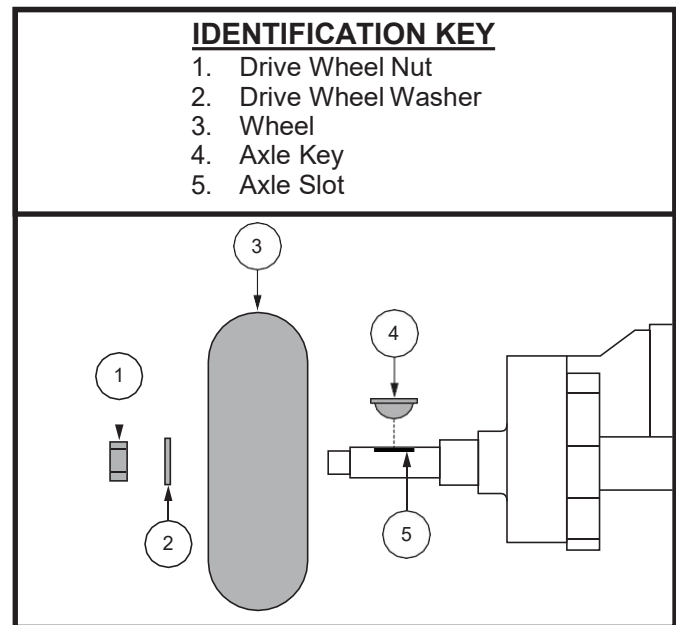

Figure 35. Wheel Replacement
3. Remove the drive wheel nut and washer from the axle. See figure 35.